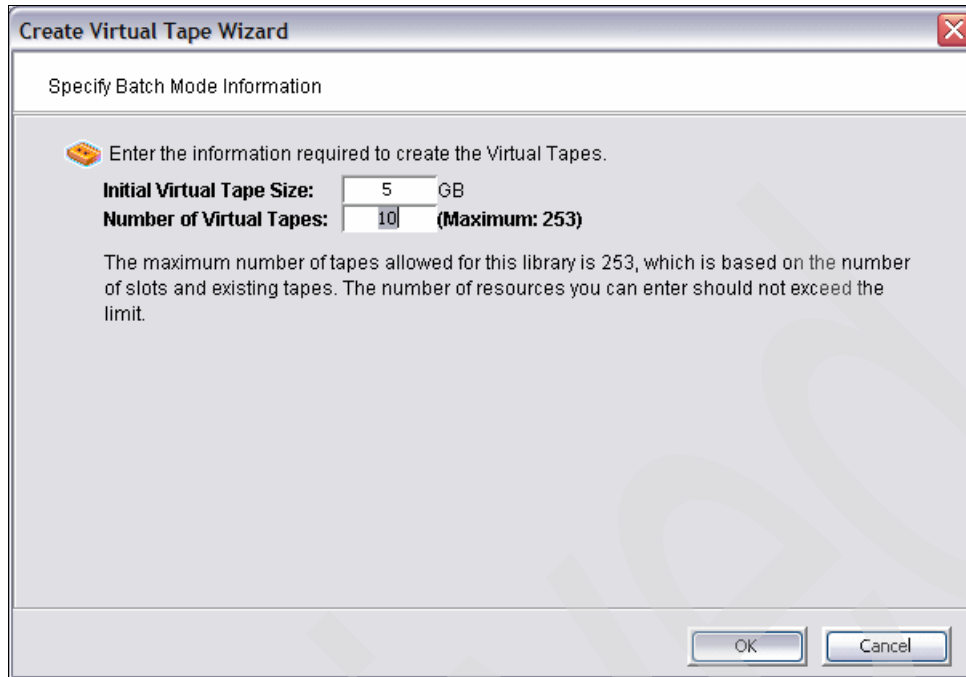

Figure 5-42 Setting the initial virtual tape size
9. In the Specify Batch Mode Information panel (Figure 5-42 on page 100), you can choose the initial virtual tape size. The default size for all media types is 5 GB. This means that at least 5 GB of space is required for all virtual tape volumes. You can change this value, but it is not necessary, because while writing to a virtual volume, the volume expands its size in increments defined by the increment size. The increment size is 5 GB for LTO2 and 3592 and 7 GB for LTO3. In this example, we keep the default initial size.